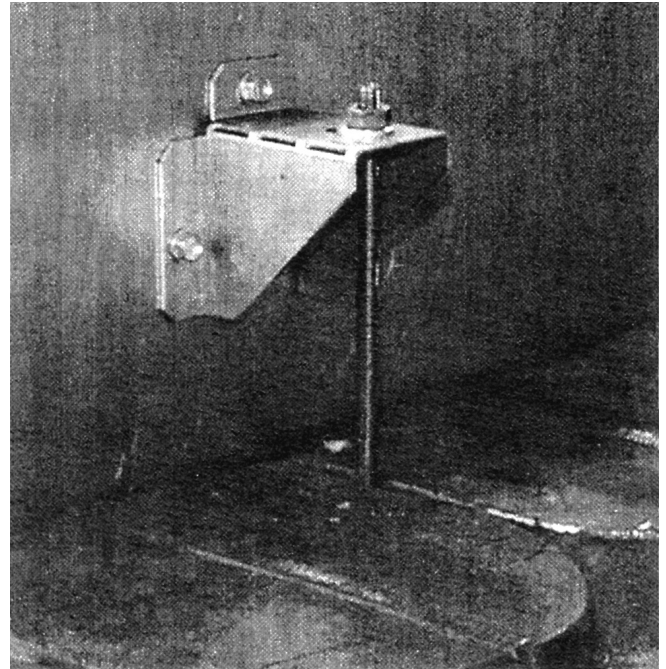

Figure 15: Right Side Canopy Intermediate Bracket
- d. Secure canopy right side bracket(s) with 1/4 - 20 x 5" lg. carriage bolts. Insert head of carriage bolt between canopy body and casting. Slide carriage bolt into slot provided between castings. Lower carriage bolt until threaded end will pass through hole in bracket. Secure canopy with 1/4" flat washers, lock washers and brass nuts. See Figure 15.